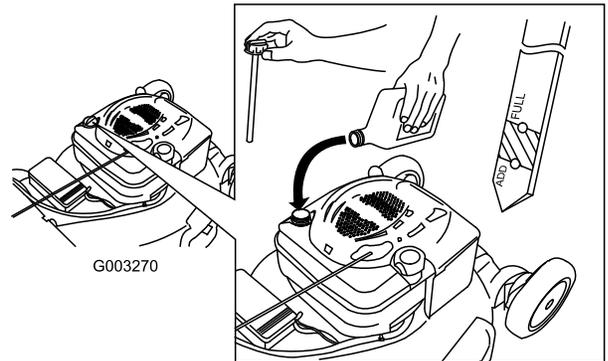

Figure 48
4. **Slowly** pour oil into the oil fill tube until the oil level reaches the Full line on the dipstick (Figure 48). **Do not overfill.** (Max. fill: 20 oz. (0.59 l), type: SAE 30W detergent oil with an API service classification of SF, SG, SH, SJ, SL, or higher.)